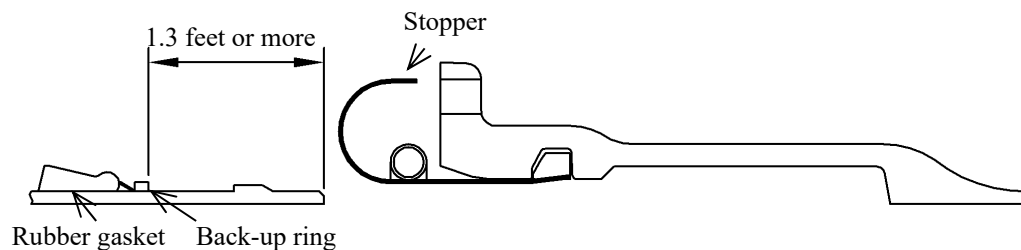

Figure 9 Joining part setting position
- (1) Clean the Rubber gasket and set it to the spigot. At this time, confirm the indication mark (NS) of the rubber gasket and set it in the direction illustrated in Figure 9.
- (2) Clean the back-up ring and set the spigot to it. In this case, set it in the direction illustrated in Figure 9.